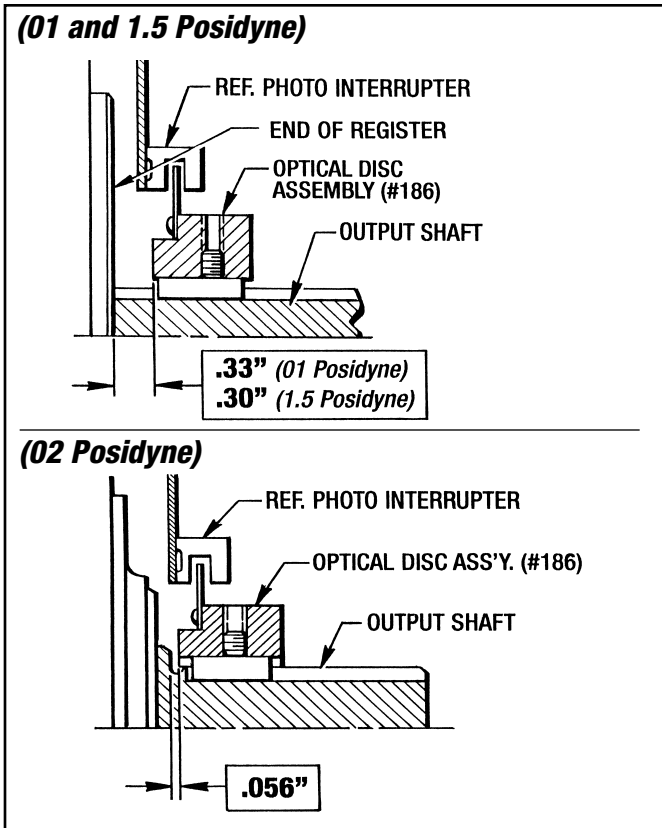

Figure 5.4 - Optical Disc and Hub Positioning (Sizes 01, 1.5 and 02 *Posidyne*)
2. Slide the Optical Disc Assembly (#186) onto the output shaft and position as shown in Figure 5.4. **The positioning of this Optical Disc Assembly must be accurate.**
6. Attach the Disc Housing (#17) to the output end of the Posidyne with the (4) Screws (#76). Also (4) Lockwashers (#257) for Sizes 01, 1.5 and 02.
8. Carefully insert the Circuit Board (#355) into the top of the Disc Housing making sure the (3) Photo Interrupters straddle the Optical Disc. (See Figures 5.4, 5.5 or 5.6)